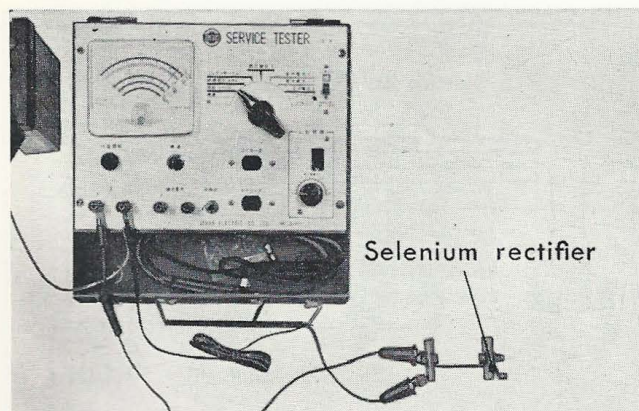

Figure 5-39. Connecting the test leads
- (1) Use service tester.
- (2) Test procedure
- c. Short across the \oplus and \ominus leads of the tester and regulate the adjuster knob so that the tester indicator needle is pointing to "0" on the "Resistance $\times 100$ " scale. (Fig. 5-39)
(3) Inspecting the selenium rectifier